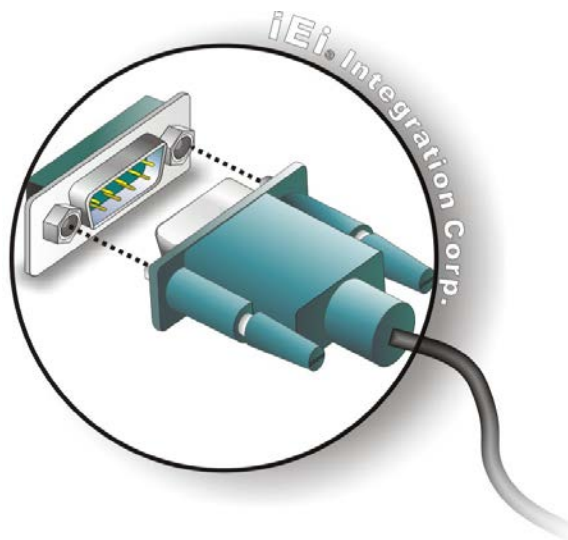

Figure 3-22: Serial Device Connector
Step 2: **Insert the serial connector.** Insert the DB-9 connector of a serial device into the DB-9 connector on the external peripheral interface. See **Figure 3-22**.